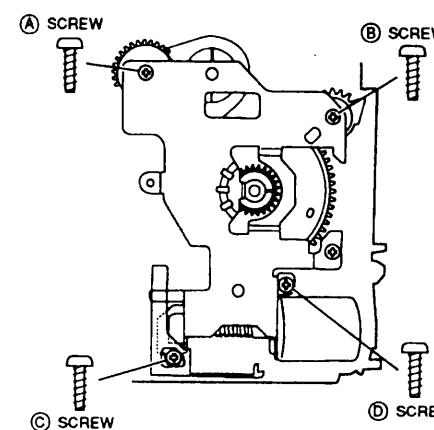

Fig 8.
- 2: Remove the (A),(B), and (D) screws then remove the LOADING DRIVE BLOCK as shown in Fig 8.